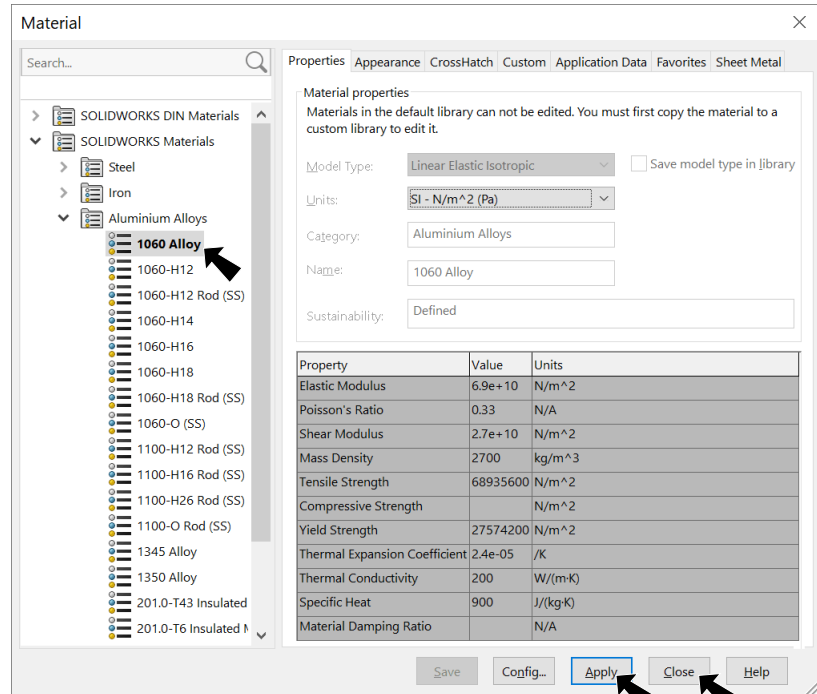

Fig. 11
Step 2. Expand Aluminum Alloys in the material tree and select 1060 Alloy, Fig. 11. Click Apply and Close.